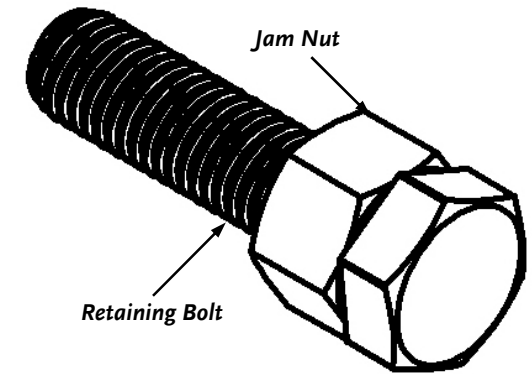

Figure 11
9. Back the Jam Nuts on the two M10 x 40mm Retaining Bolts (**Figure 11**) all the way to the Head of the Bolts.
- NOTE:** You will need to back all Jam Nuts up to the head of the Retaining Bolts for all hardware shipped in the Hardware Kit prior to installation (**Figure 11**). Be sure to tighten the Bolt first and then secure it by tightening the Jam Nut.